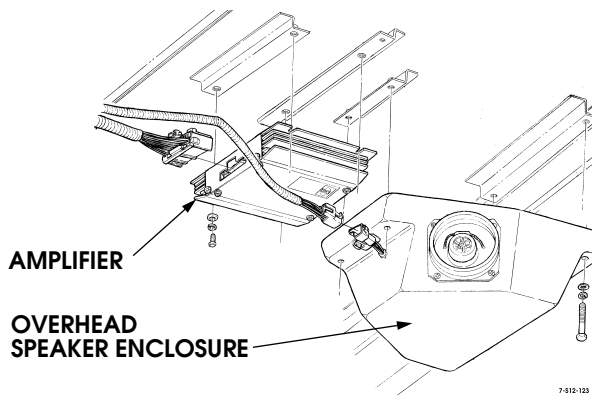

Figure 12-139: Overhead Speaker & Amplifier Removal.
8. Disconnect 32 pin connector from amplifier and four screws securing amplifier to mounting bracket (Figure 12-139).